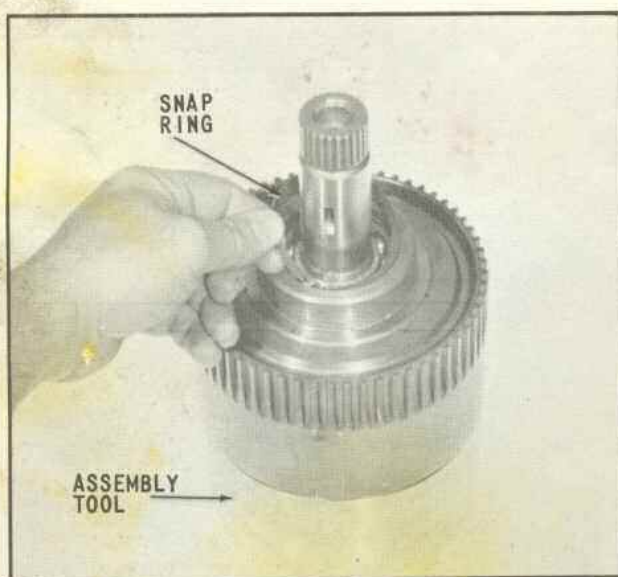

Fig. 51 Installing Snap Ring
41. Install internal snap ring in clutch cylinder, (Fig. 51).